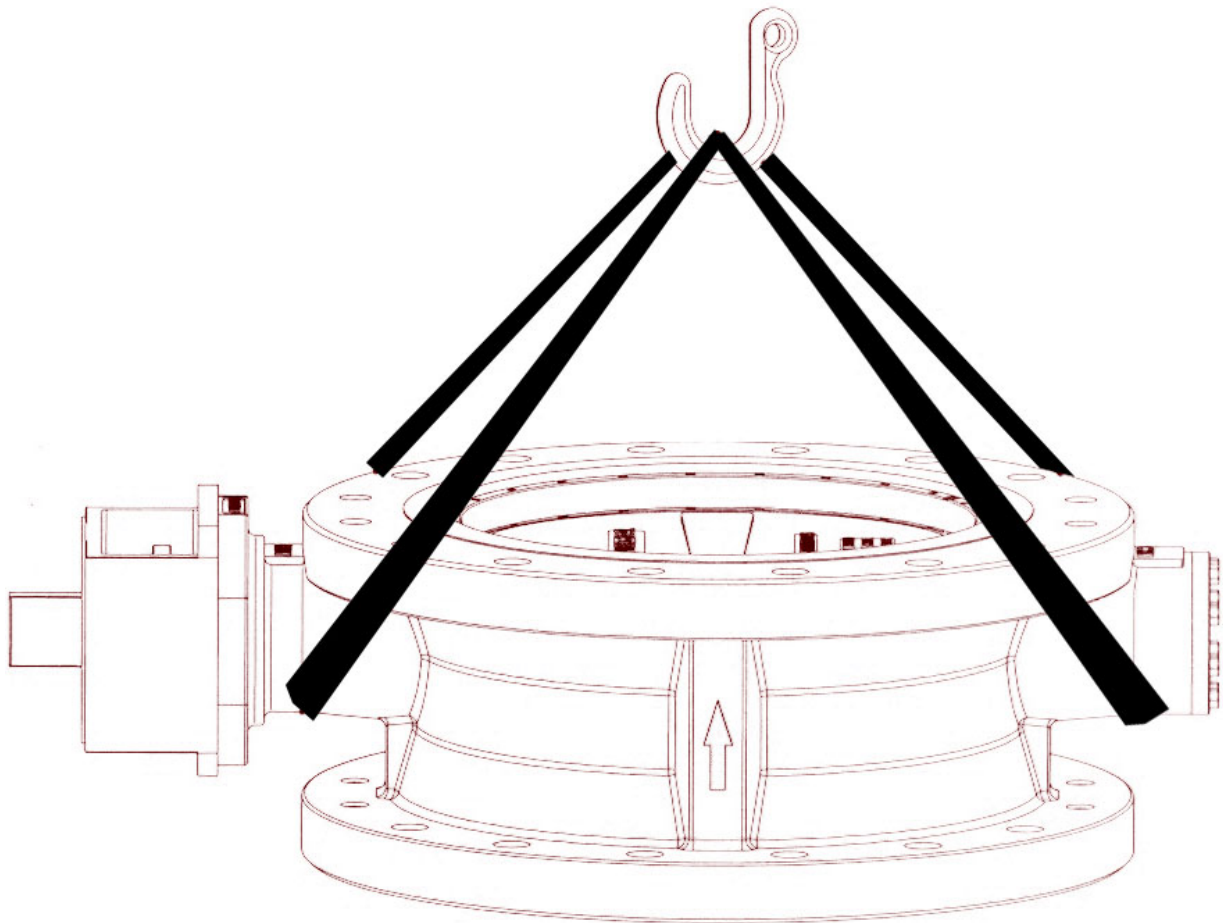

Fig .1
- Lift the Valve properly as shown in figure 1
Valve should be lifted by using chain or bearer cables as shown in figure 1. (Take care that Valve should not damage while handing).